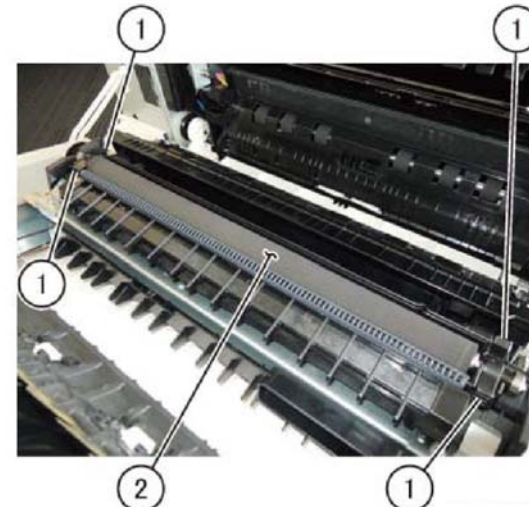

Figure 1 BTR roll assembly removal
2. Disengage the hooks (1) on front and rear, then remove the BTR assembly (2), **Figure 1**.